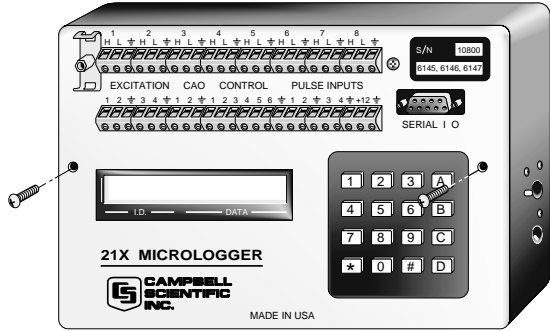

FIGURE 1. Removing Faceplate Screws
3. Use a Phillips screwdriver to remove the screws on both sides of the 21X(L) faceplate (Figure 1).